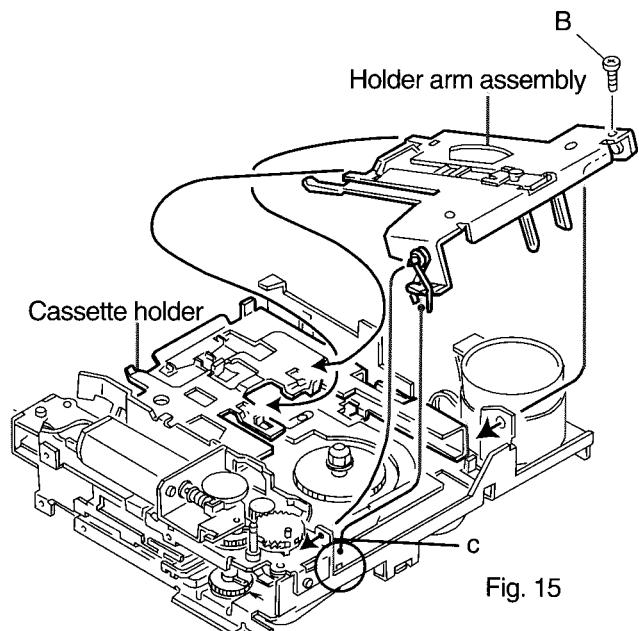

Fig. 15
5. While attaching the holder arm assembly to the cassette holder, insert the shaft of the holder arm assembly into the interlocking section **c** of the sub chassis assembly as shown in Fig. 15.
7. After the holder arm assembly is installed, secure it with the screw **B** ( See Fig. 15 )